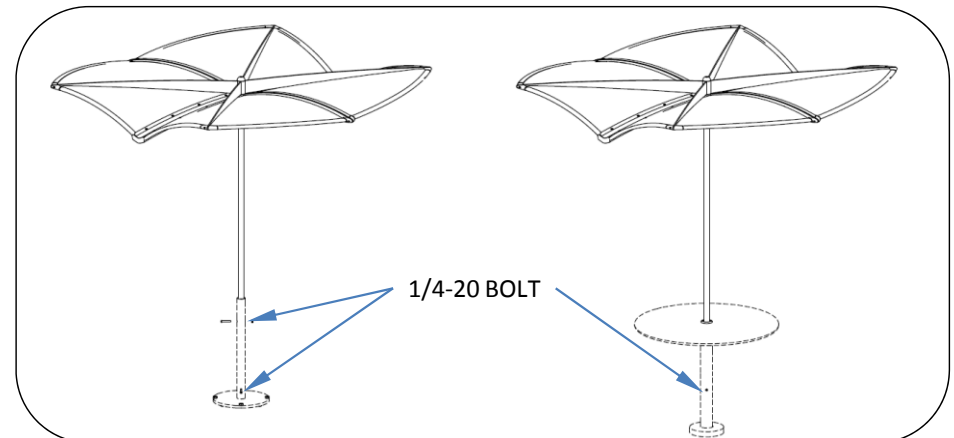

Fig. 3 – Secure umbrella
5. Turn umbrella to align holes in support and pole. Insert 1/4-20 bolt through holes and install locknut. This hardware is shipped with the table support or surface mount stand. The surface mount stand has two screws and locknuts. See Fig. 3.